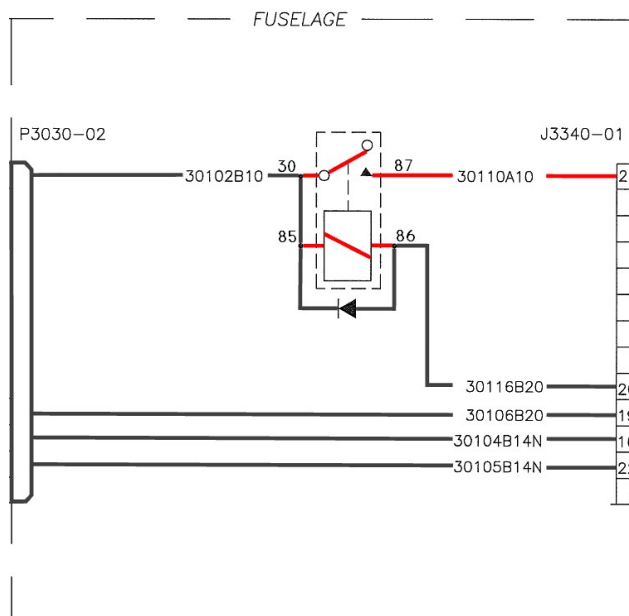

Figure 27: Fuselage Schematic highlighting the Relay Installation
12.2.4 Follow the instructions below to install the relay and associated connections, as shown in Figure 27.